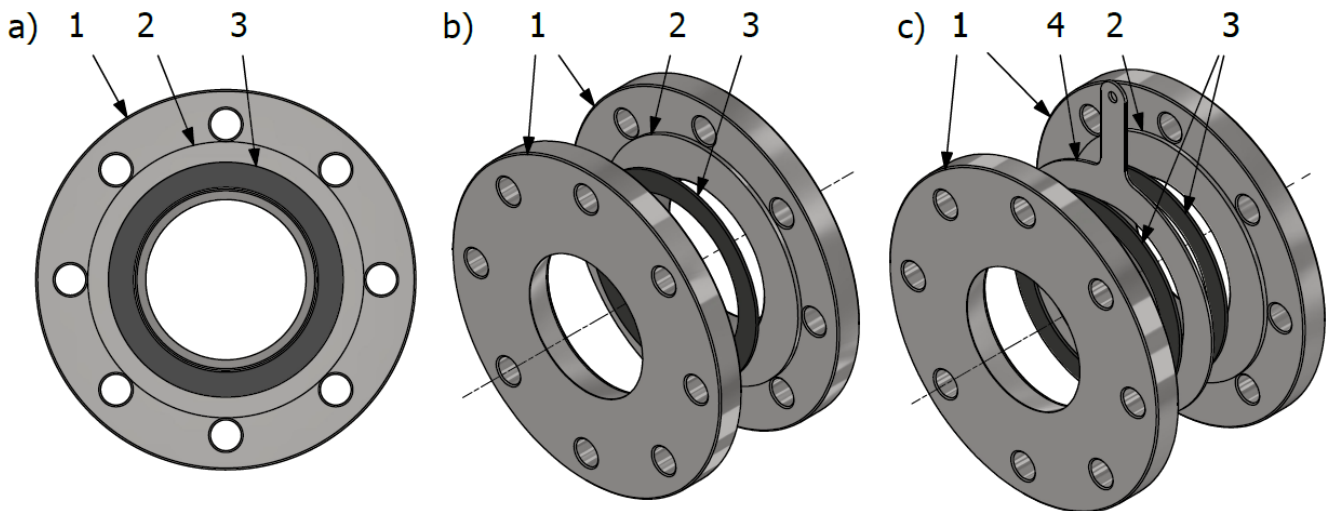

Figure 4. Installation of the gasket between the flange faces of the sensor and pipeline a) front view, b) isometric view, c) isometric view with grounding ring
- During installation, it is essential to place a gasket between the flange faces of the sensor and pipeline according to → [Figure 4. Installation of the gasket between the flange faces of the sensor and pipeline a\) front view, b\) isometric view, c\) isometric view with grounding ring.](#) If grounding rings are used, the gasket must be installed on both sides of the rings.